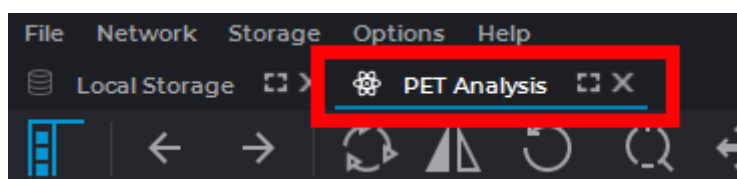

Figure 8.2: PET analysis tab button
4. Holding down the left mouse button, drag the series to the PET analysis tab (surrounded by the red frame in Fig. 8.2). Do not release the button. The PET analysis tab is displayed above other tabs.